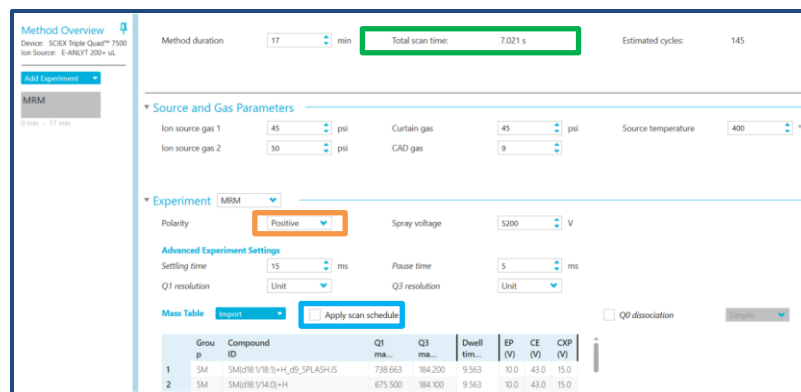

Figure 5-2: Defining the positive polarity information for experiment 1.
4. Select positive polarity for the first experiment as indicated in the orange box in **Figure 5-2**.
6. Adjust the Target Cycle time to 1000 msec as show in **Figure 5.2** indicated by the green box.
4. Adjust the Target Cycle time to 1000 msec as show in **Figure 5.2** indicated by the green box.